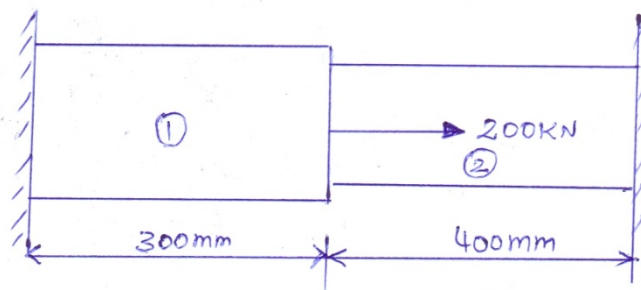

Figure 1
- Consider a bar as shown in Figure 1. An axial load of 200kN is applied at point P. Take $A_1 = 2400mm^2$, $E_1 = 70GPa$, $A_2 = 600mm^2$ and $E_2 = 200GPa$. Calculate the following